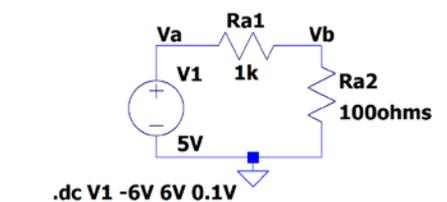

Figure A-4.
- Wire the circuit shown in Figure A-4 in *LTspice*.
- Change the Quantity plotted to be the voltage on Ra2. It is V(Vb) if you have labelled your schematic as was done for Figure A-4